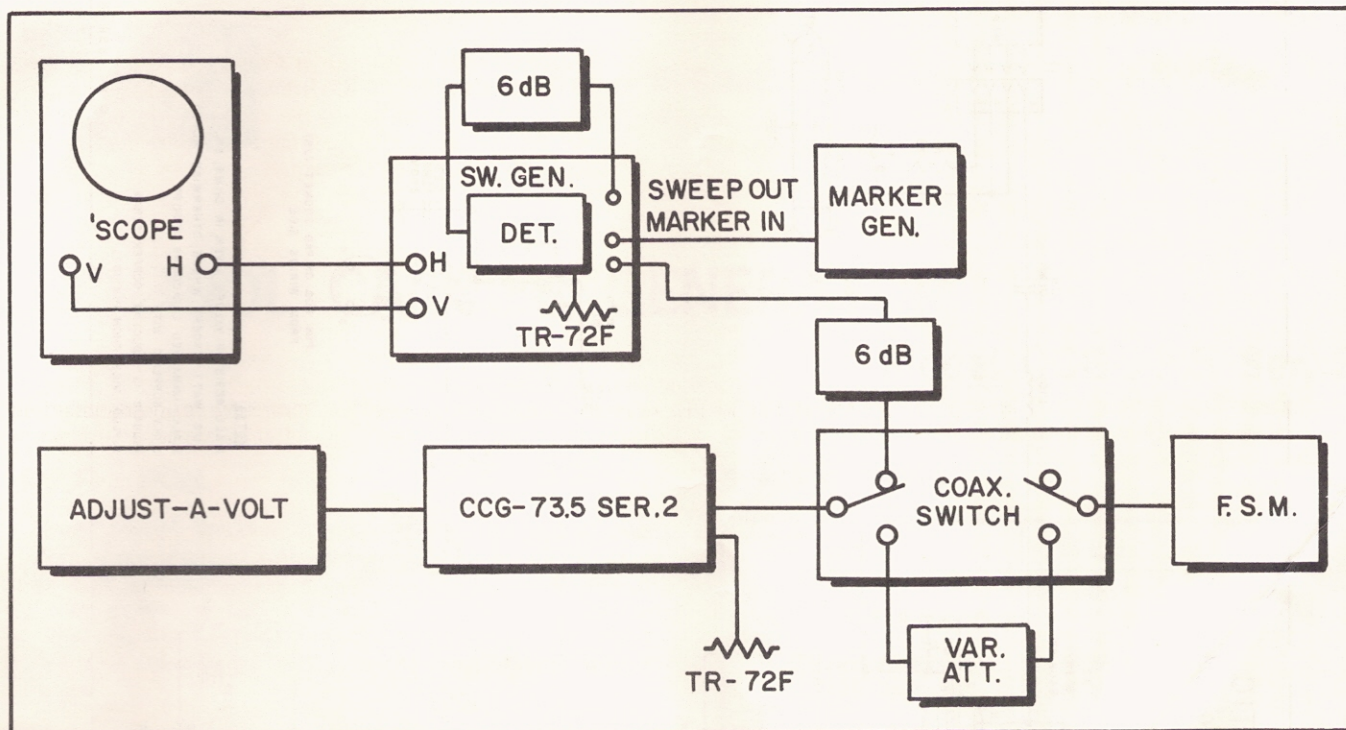

Fig. 4. Test Set-Up of Model CCG-73.5 Series 2
1. Set up the test equipment with the CCG as illustrated in Fig. 4.